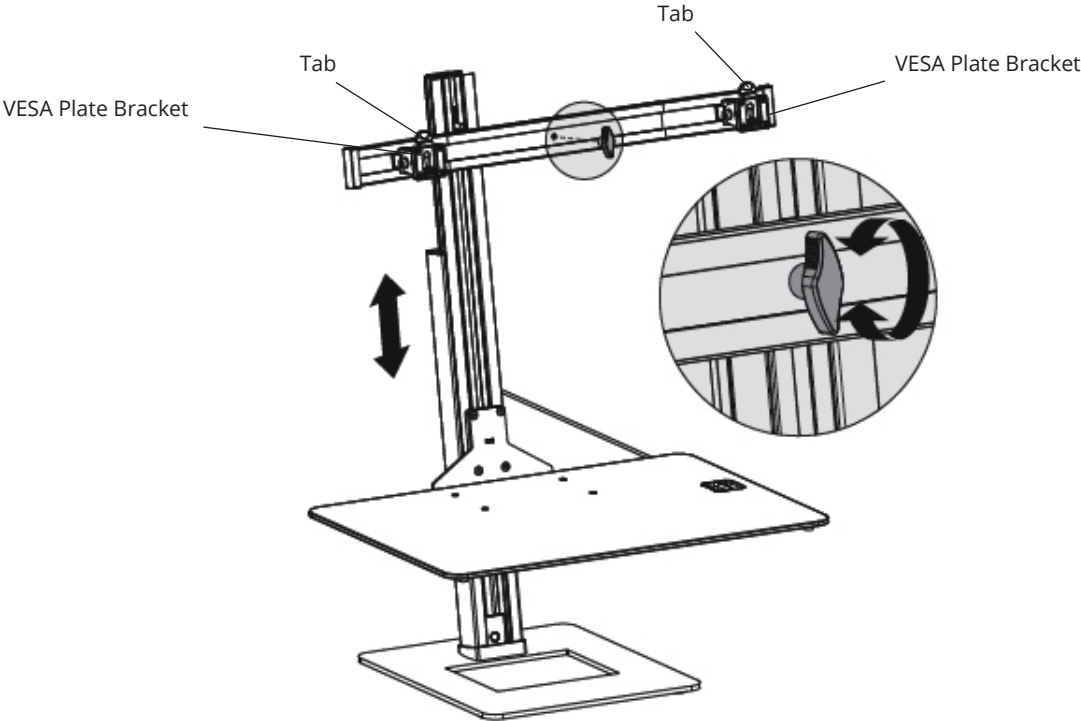

Figure 8
2. Mount the Monitor Arm and secure it with the Wing Nut, see Figure 8.